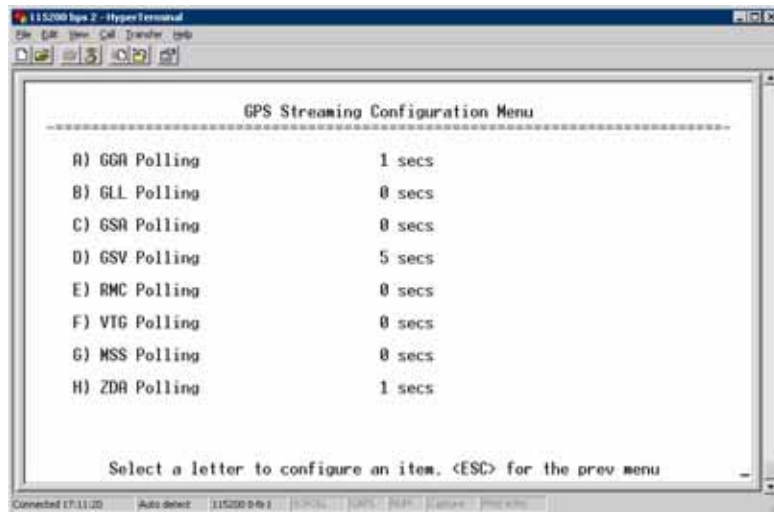

Figure 3-78. GPS Streaming Configuration Menu
- **GPS Streaming Configuration**—A submenu for setting GPS NMEA outputs. (See Figure 3-78 on Page 107.)